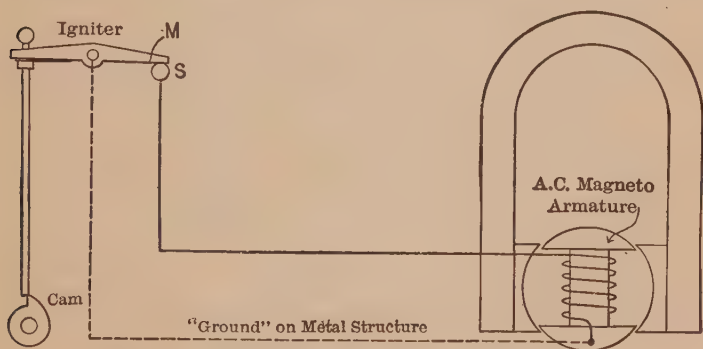

FIG. 206. Make-and-break system using magneto.
Fig. 206 shows the coil and battery replaced by a magneto generator, which is driven by the engine. Such an arrangement is usually started on a battery, as shown in the previous figure. The battery is cut out when the engine gets up speed.
**Footnote.** Figures 206 and 207, illustrating gas-engine ignition, are taken from "Electric Ignition" by Forrest R. Jones. The student is referred to this excellent work for full information on the details of the various systems in use.